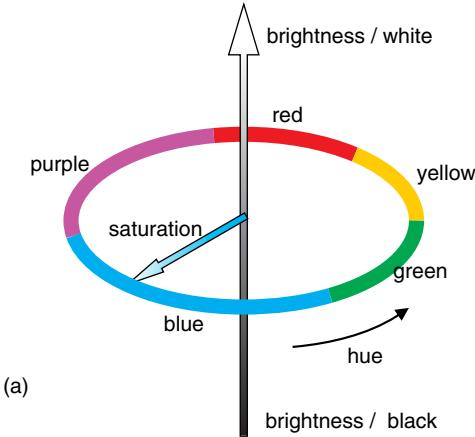

Figure 5: A color whell
**Definition 1.8.** Hue correspond to the wavelength or frequency of the light, correspond to the angle of figure 5. The angle starts at prime red ( $0^\circ$ ), to green ( $120^\circ$ ), then to blue ( $240^\circ$ ) and back to red.
**Definition 1.9.** Saturation is by how much the light was mixed with the 'white light'. It correspond to the radius of figure 5
**Definition 1.10.** Brightness describes the intensity of the light. It correspond to the number in the verticle axis of figure 5.